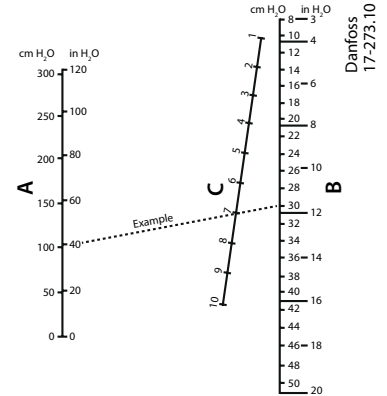

Fig. 3
Setting Fig. 3
RT 113 is set according to the function – make or brake – which is to take place when the pressure falls (range setting). Setting is done by rotating the knob (5), at the same time reading the main scale (9). The differential is set by rotating the differential adjusting nut (19) to the value indicated by the use of the nomogram in fig. 3. The maximum operating pressure is thus the sum of setting pressure and the differential pressure.
2. Set the pressure switch for 100 cm H₂O by rotating the knob (5).
3. Set the differential adjusting nut (19) at the figure 7 which is found by reading the nomogram in fig. 3.